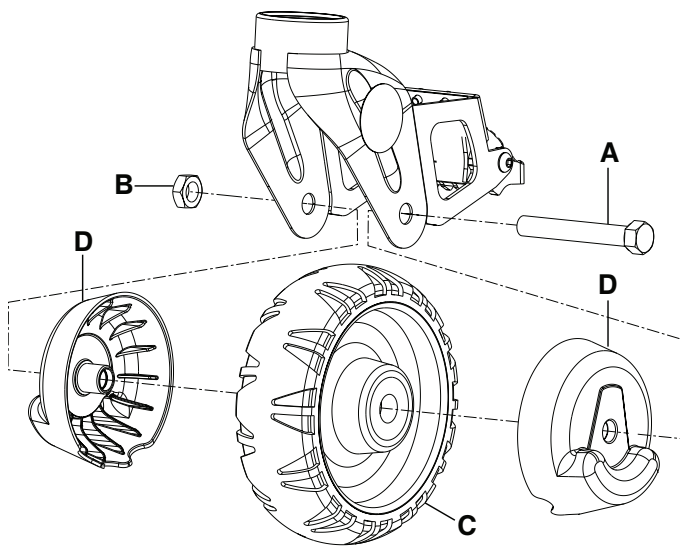
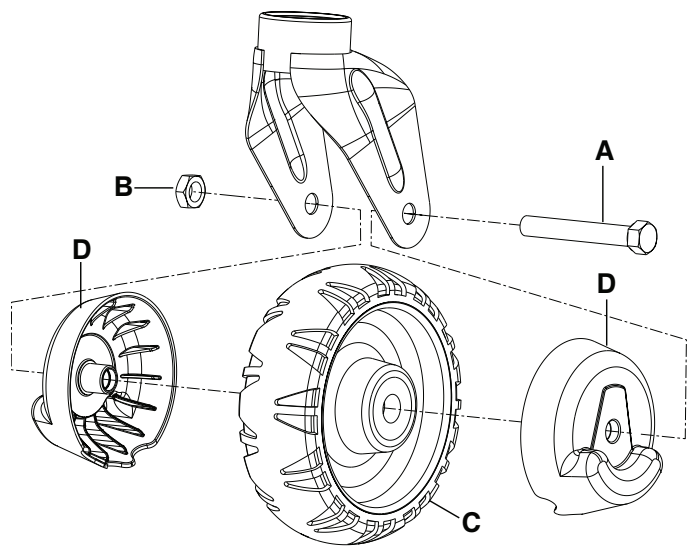

Figure 5 – Cot wheels with wheel covers, with wheel lock
Figure 6 – Cot wheels with wheel covers, without wheel lock
4. Align two wheel covers (6390-001-206) (D) around the wheel, so that the wheel covers match on both sides (Figure 5 or Figure 6).
5. Using a 5/8" socket with a 3/8" drive ratchet and a 11/16" combination wrench, install the hex head cap screw (A) and topleck locknut (B) (0016-060-000) to secure the wheel (C) with the wheel covers (D) to the caster horn (Figure 5 or Figure 6).